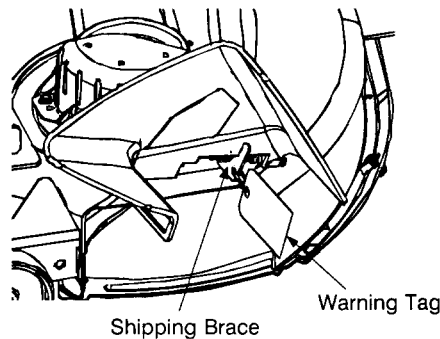

FIGURE 4
- Locate the shipping brace and accompanying warning tag on the right side of the mower, between the discharge chute and the cutting deck. See Figure 4.
- Carefully allow the discharge chute to pivot downward. See Figure 4.